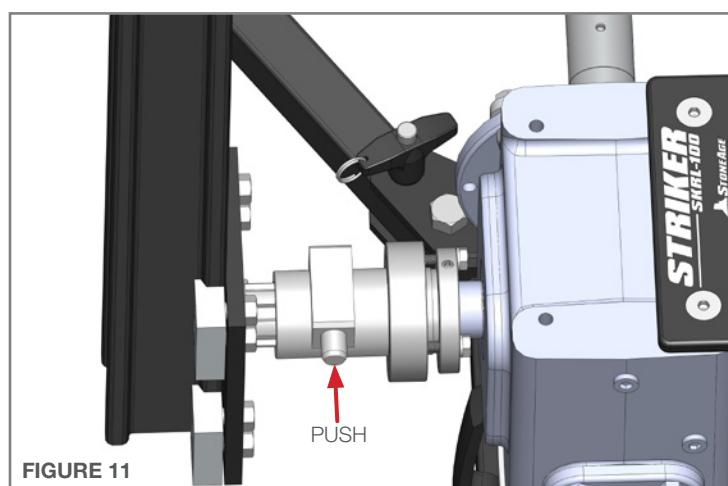

FIGURE 11
8. Depress the Hub Pin pin on the Spline Coupling. Make sure the spring pin is fully engaged when it is released. (**Figure 11**)